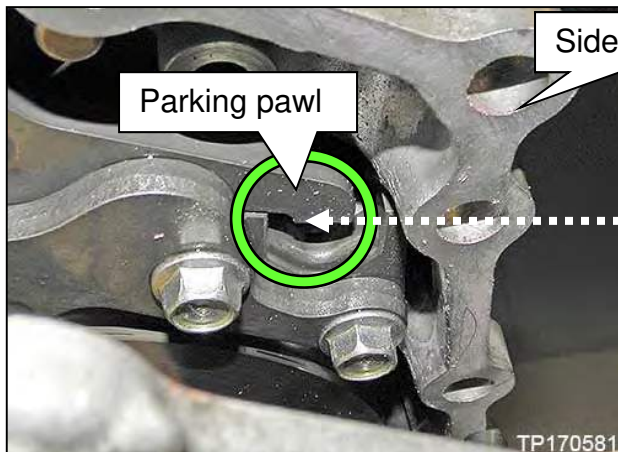
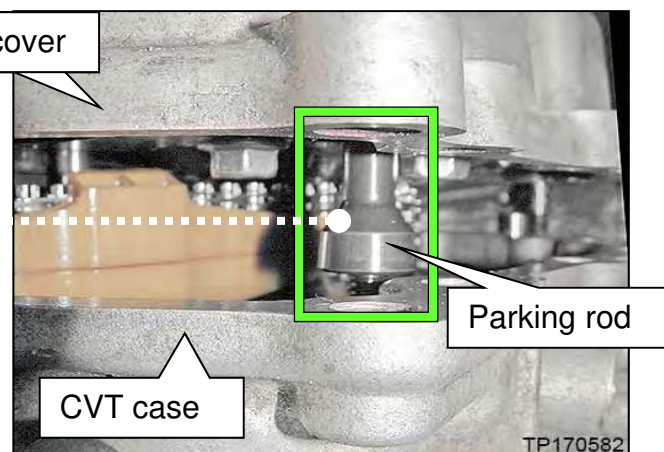

Figure 96
Figure 97
- b. Use a magnet, or similar tool, to align the parking rod in the CVT case ( in Figure 97) with the opening in the parking pawl ( in Figure 96) in the side cover.